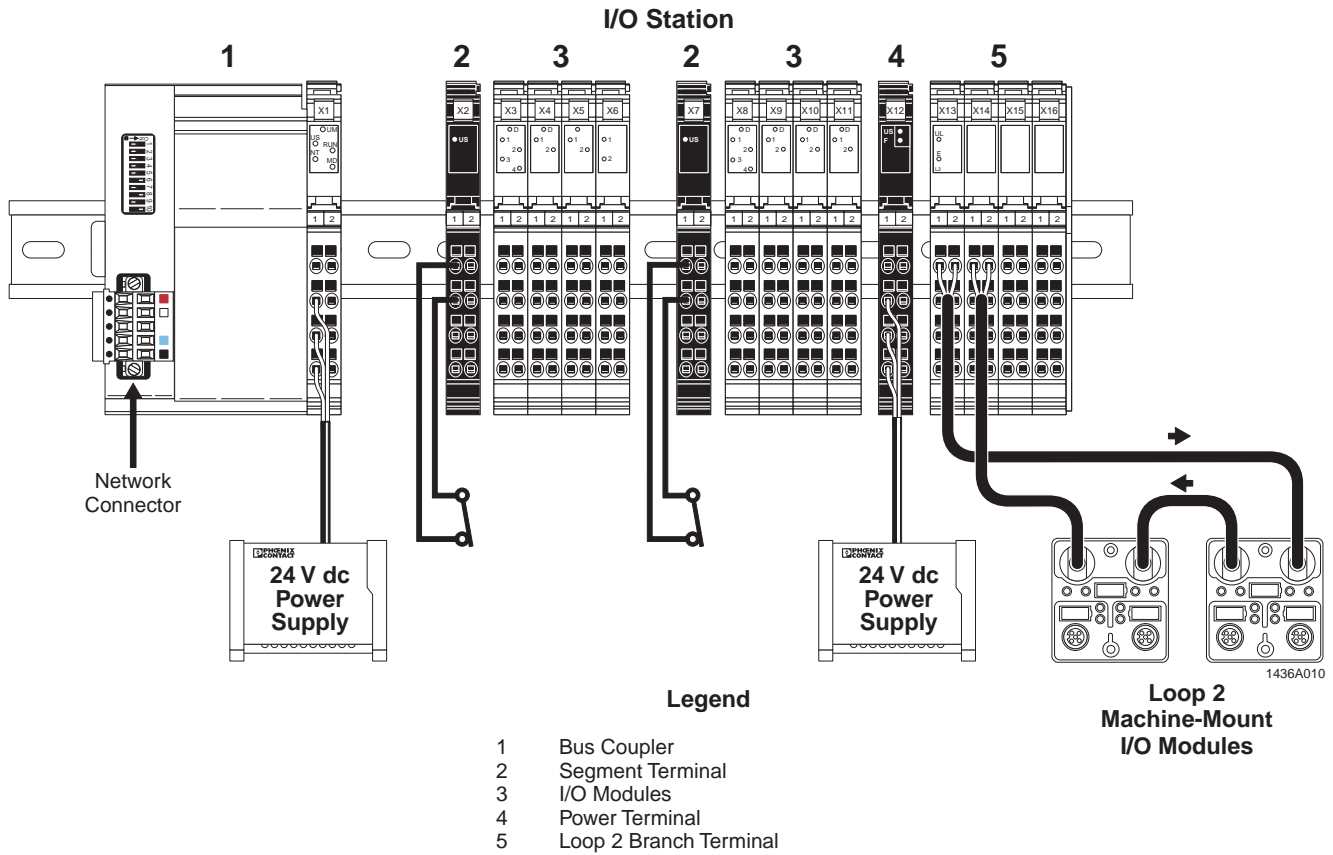

Figure 1-2. Example of a Basic Inline Station
The installation local bus cable is a 2-wire, unshielded cable that transmits I/O data, communications power and sensor power. See Figure 1-2. You can build a network of Loop 2 devices up to 200 meters (656 feet) with up to 63 Loop 2 devices. Note that each Loop 2 device will count towards the total number of devices (63) on the Inline station.
The Inline product family is a modular automation system that can be integrated into an INTERBUS, DeviceNet™, CANopen, Profibus™, or MUX system. Inline modules are joined together to create functional units that meet the requirements of the application. See figure 1-2, shown with the DeviceNet™ bus coupler.